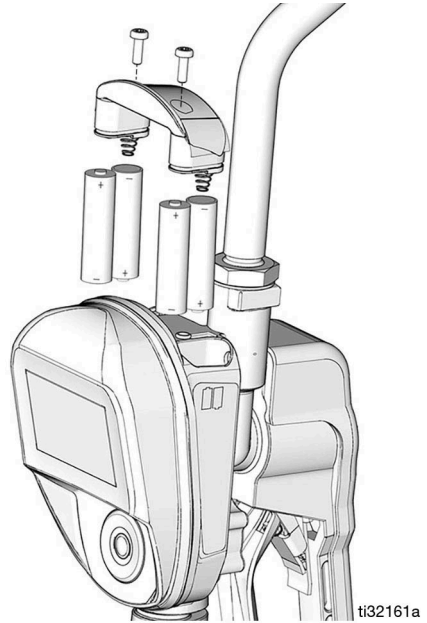

FIG. 35
- Replace batteries with four (4) AA, alkaline batteries.
- Be sure to follow the correct polarity as shown on the installation labels located on either side of the metered dispense valve when installing batteries in the battery compartment (FIG. 35).
- Do not mix different types of batteries together or old batteries with fresh ones. Always replace all four (4) batteries with four (4), fresh, new AA batteries.
4. Install four (4) new batteries. See labels on the each side of the housing and FIG. 35 for battery orientation.